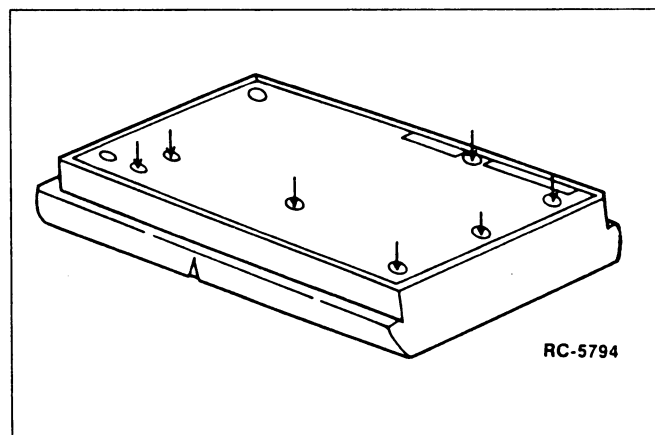

FIGURE 12 - RF SECTION W/BACK CASTING
- b. Tightening clamp screws on the Radio Unit may greatly affect transmitting and receiving spurious. If the Radio Unit is disassembled for maintenance, when assembling, tighten the screws in the unit properly. (Refer to Figure 12).